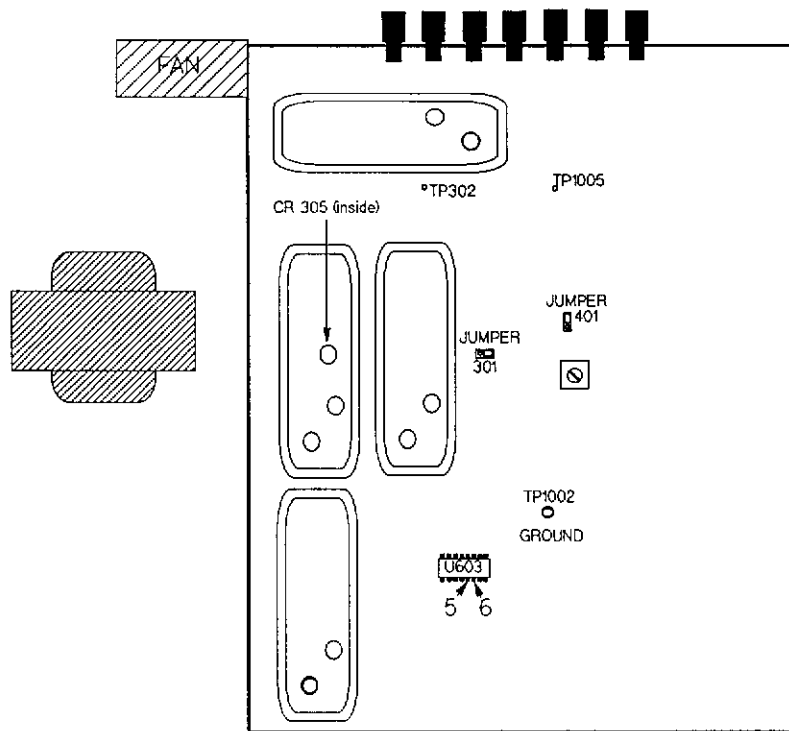

Figure 5-19. Component and Monitor Positions
2. Using a 1:1 probe, measure 100kHz approx 620mV amplitude at pins 5 (ref) and 6 of U603 (See Figure 5-19).